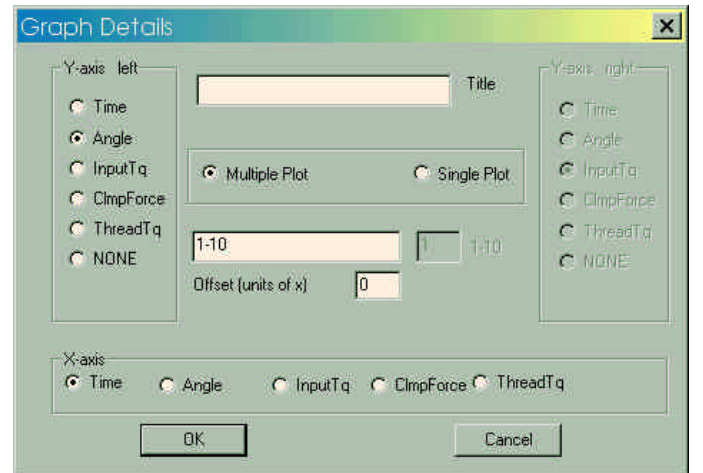

Figure 7. Graph Data Dialog Box, Multiple Plots
- ▲ If more than one plot is stored in the file, select either a multiple plot or a single plot. For multiple plots, you may specify which plots to display (i.e., 1-5 or 1,2,4,5 etc. as shown in Figure 7). If desired, you can specify an amount of offset for multiple plots in units of the X-axis data.